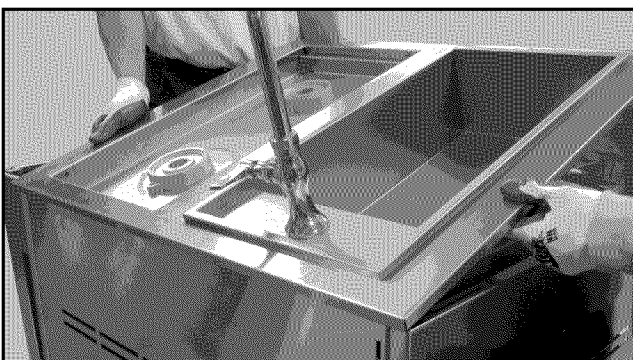
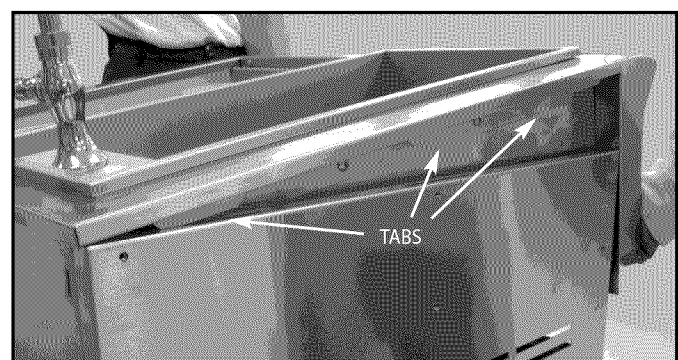

Fig. 10
Fig. 11
2. Two persons required to lift head (sink module shown). Placing head on cart, place rear of head over the rear of the cart first (Fig. 10). Then allow the rear side tabs to first locate in the slots on the top of the cart sides. The other tabs will locate in the middle and front slots as the head is lowered into position on the cart (Fig. 11).